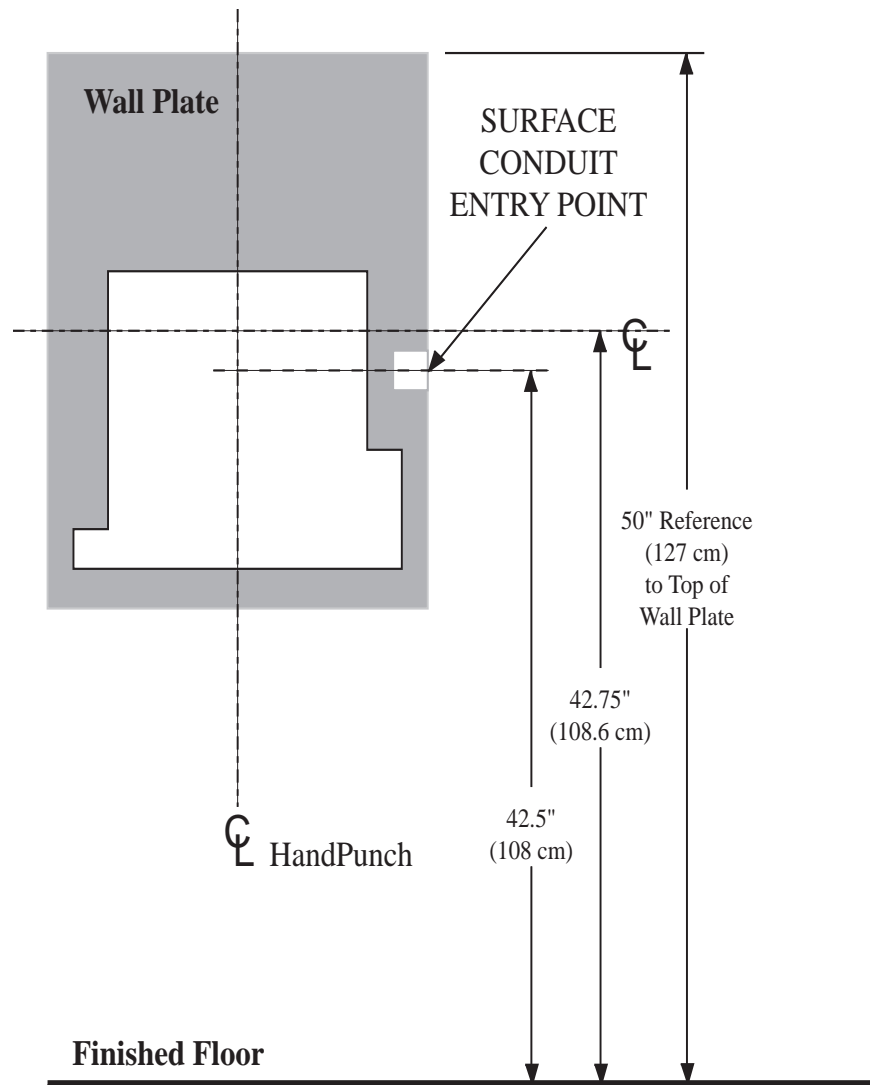
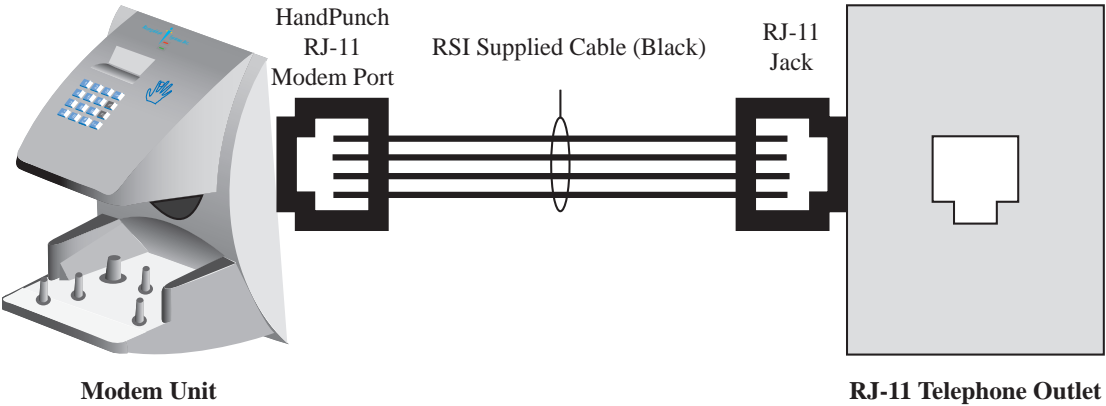

Figure 3-2: HandPunch Wire Routing Layout
Figure 4-4: Host PC to HandPunch Modem Connection
Before you begin installation, check the site blueprints, riser diagrams, and specifications for important information about HandPunch location and for other systems that connect to the HandPunch. Look for any existing wall preparations and wiring that other contractors may have installed for the HandPunch. A wire routing layout diagram (see Figure 3-2 on page 15) is provided to assist in planning wire routing.
To make the modem connection, a telephone jack must be installed on or in the wall behind the modem HandPunch terminal. Position the RJ-11 jack location using the template provided in this manual (see Figure 3-2 on page 15). The short black cable provided with the modem HandPunch connects the terminal to the telephone jack. Figure 4-4 on page 19 a wiring diagram for a modem to host computer connection.
1. Refer to Figure 3-2 on page 15 for a template diagram to assist in routing wiring.
Figure 4-4 on page 17 provides a Host PC to HandPunch Modem Network wiring diagram (Modem wiring is a HandPunch option).